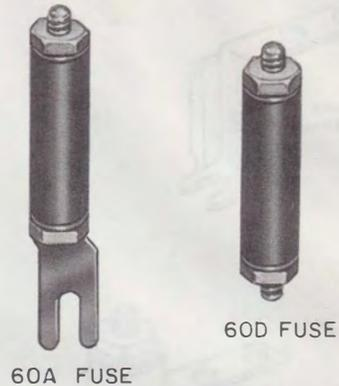
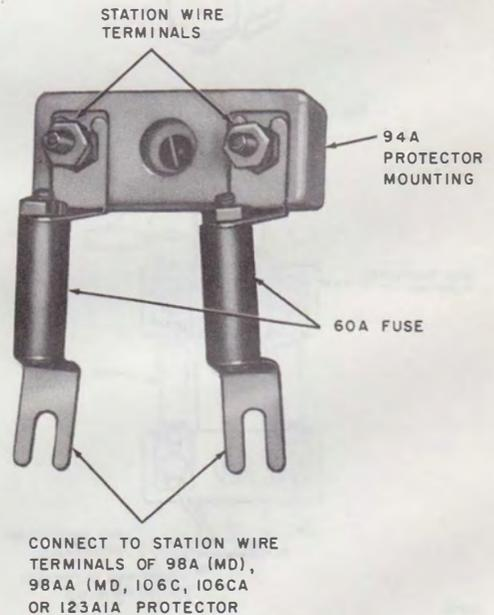

Fig. 76—60A and 60D Fuses
Fig. 77—60A Fuses Connected to 94A Protector Mounting
10.04 The 60A and 60D fuses (Fig. 76) are rated 0.350 ampere and differ only in arrangement for mounting. The 60A fuse has a spade terminal and is used with the 94A protector mounting (Fig. 77). The 60D fuse is mounted in a 14A fuse holder (Fig. 78) or 1094A protector (Fig. 79).